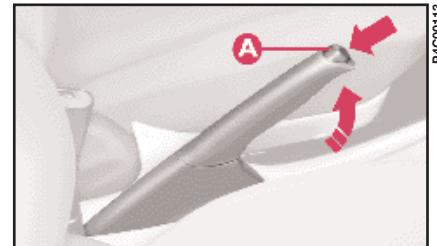

fig. 1
- 1) Slightly lift the handbrake and press release button A (fig. 1).
- 2) Keep the button pressed in and lower the lever. Instrument panel warning light ① will go out.